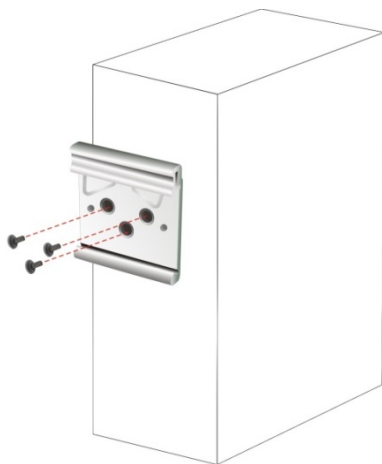

Figure 3-10: DIN Rail Mounting Bracket Installation
Step 1: Attach the supplied DIN rail mounting bracket to the rear panel of the embedded system. Secure the bracket to the embedded system with three retention screws (Figure 3-10).